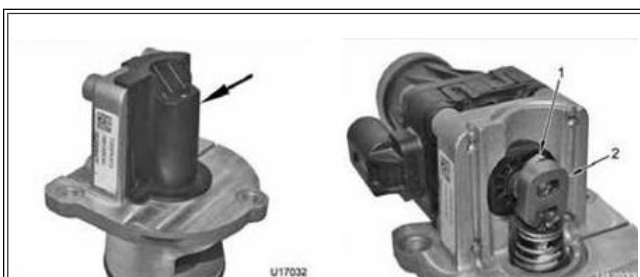

Figure 2: 2010-2013 MaxxForce 7 EGR Valve Inspection
2. Use a small hammer and soft punch to tap the top of the EGR Valve Pivot Shaft Yoke (see **Figure 2**, Item 2).